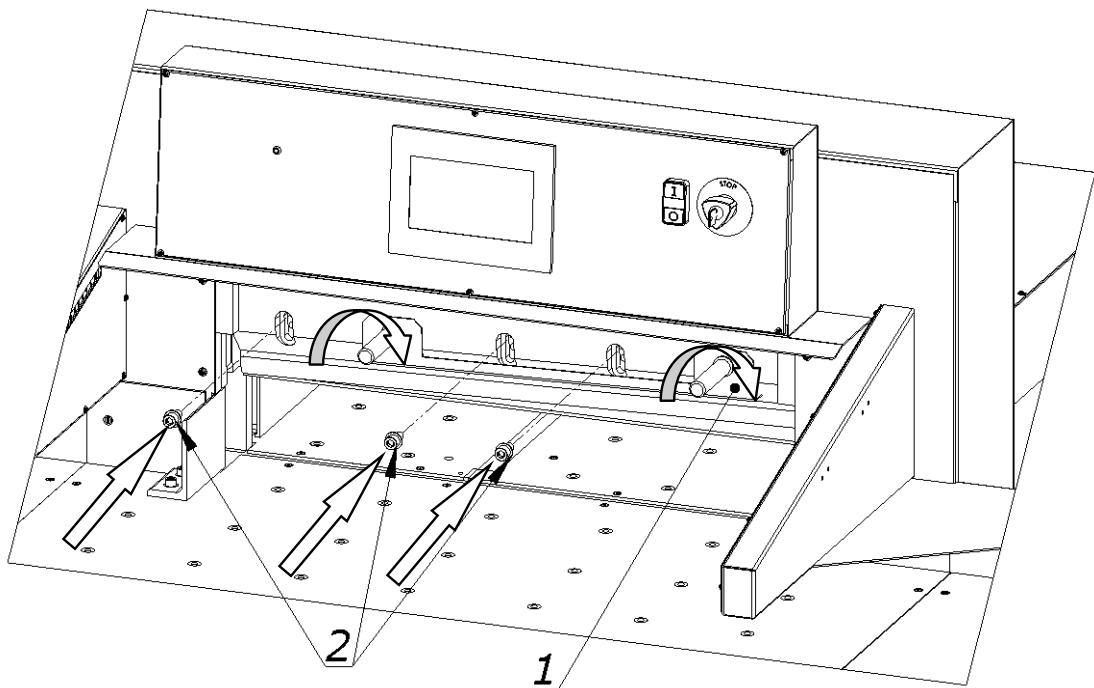

Figure 32.
8.1.2.4 Pre-attach the knife to the cutter bar by turning both transporting handles 1 to the right (fig. 32).
8.1.2.5 Install the fastening screws 2 (fig. 32).
8.1.2.7 Slightly unscrew the first screw on the left side of the clamping screw 2 (fig.32), taking care that the screw head does not protrude above the knife beam sliding plane.
8.1.2.19. Firmly tighten the first screw on the left side of the knife. 2 (Fig. 32).